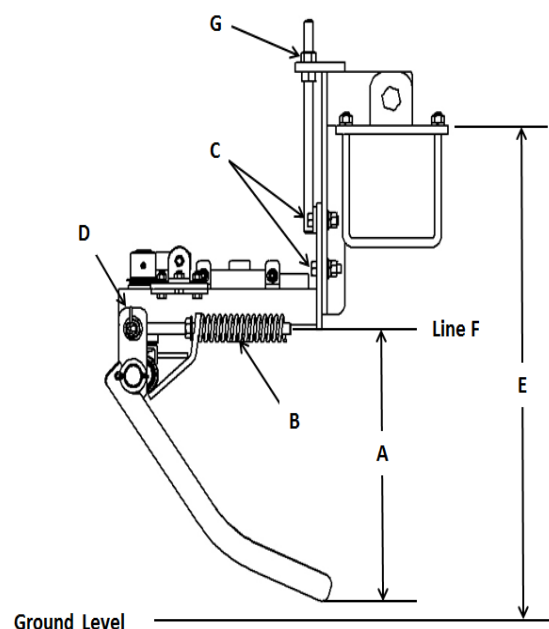

Figure 38: Row Finder Adjustment- Right Side View
When harvesting, the row finder wands should be adjusted like Figure 37 such that there is 5 in. (12.7 cm) of contact between the ground and row finder wands. Adjustment spring (B), shown in Figure 38, can be adjusted to apply more down pressure to ensure constant contact with the beet row.
Likewise, the row finder wands should be angled down when lifted out of the ground as shown in Figure 38. Dimension (A) can be adjusted using nuts (D):